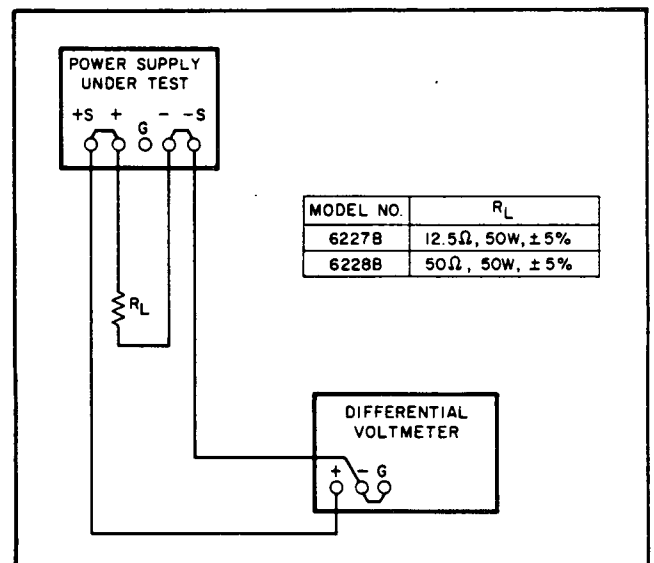

Figure 5-2. Constant Voltage Load Regulation Test Setup
- Connect load resistor (R_L) indicated in Figure 5-2 across output terminals of supply.
- Connect test setup shown in Figure 5-2.
- a. Connect load resistance and differential voltmeter as illustrated in Figure 5-2.